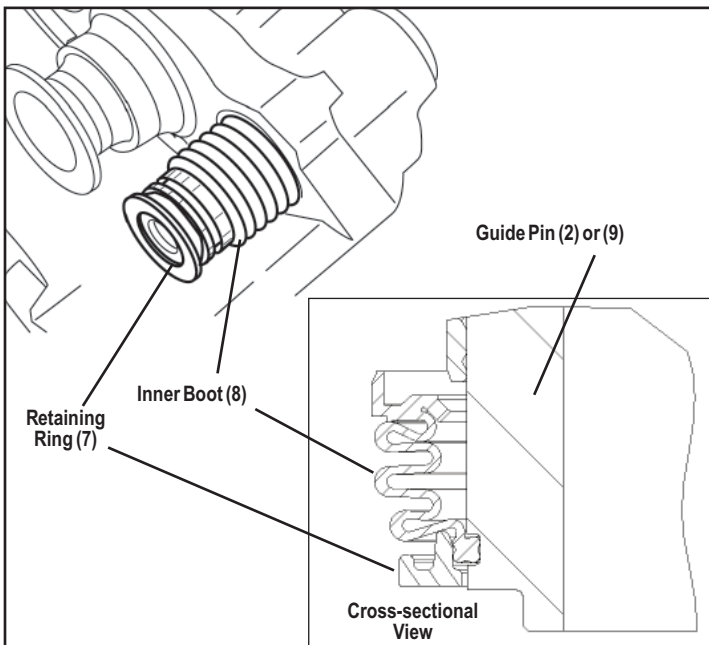

FIGURE 4 - GUIDE PIN INSTALLATION
Lubricate both guide pins with the white grease supplied. Insert the guide pins into their respective bores with the grooved end towards the bellows. Fit the lip in the end of the inner boots (8) into the groove of the guide pins (See Figure 4). Push on each ring (7) ensuring that the boot (8) is engaged onto the end of the guide pins (2 or 9).